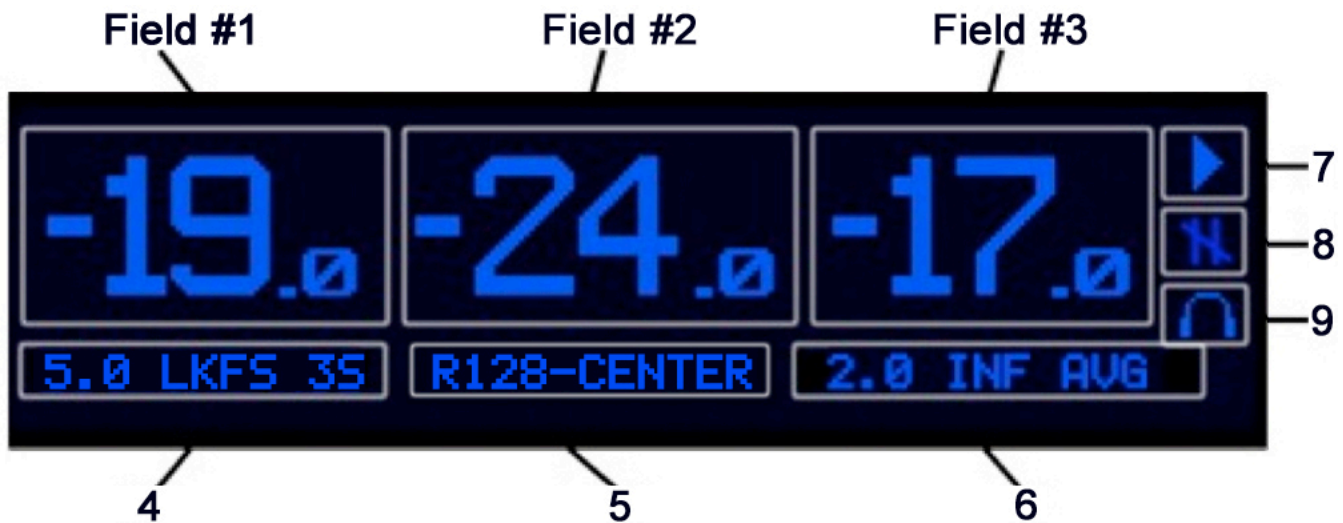

Figure 3b. Infinite Average View Home Screen on iLM8 - Live.
**Infinite Average View** – displays the Infinite Average for Surround 5.0, Max Short Loudness Average of the Center Channel, and Infinite Average for ST 2.0 in a large font (See Figure 3b)
When you select 'Infinite Average' for Home Screen view the display should look similar to the one pictured in Figure 3b. Pressing the HOME key again while on this screen enters Home Screen selection mode that allows quick access to key functions.